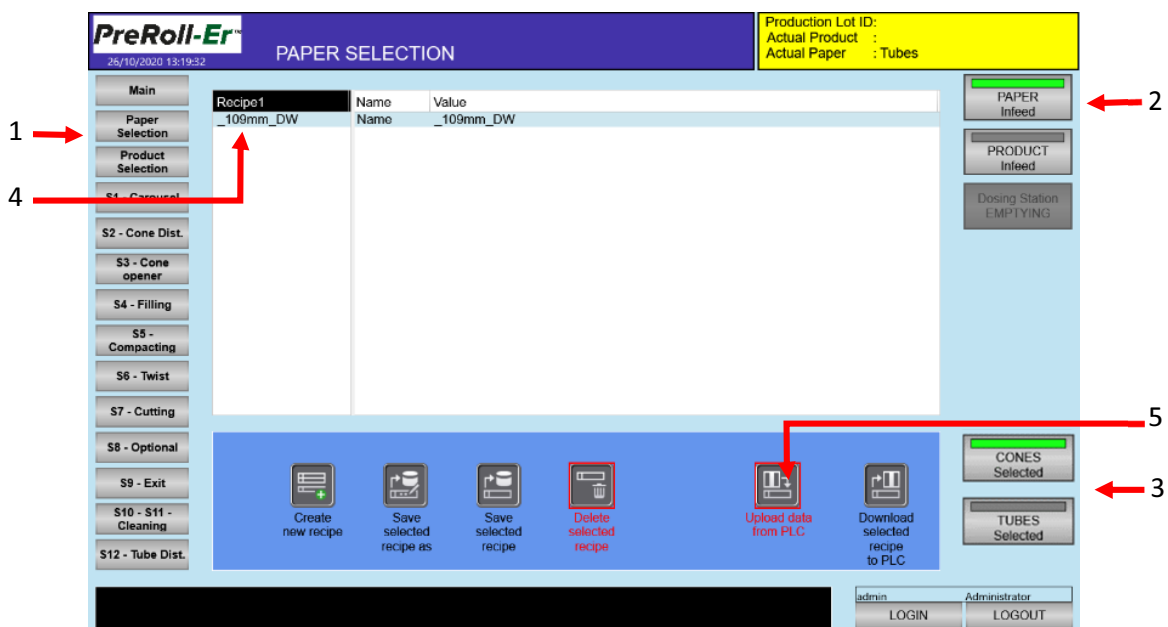

Figure 4-5 Paper selection screen
- Step 1: Click on [Paper Selection], the screen displays as shown in Figure 4-5.